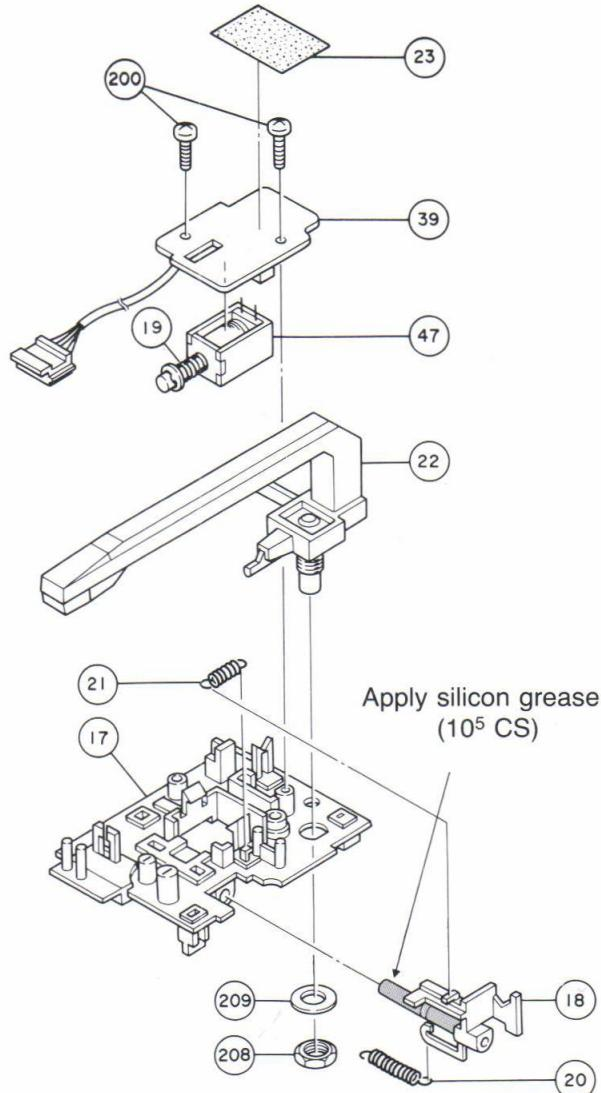

Fig. 13
3. ASSEMBLY PROCEDURES**(A) Assembly of Bracket Ass'y (17) (Figure 13)**